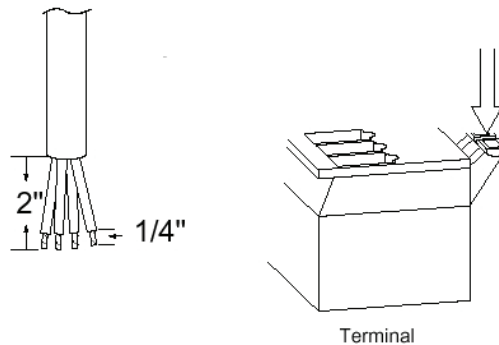

Figure No. 6
3. Remove 2" of the outer insulation jacket then remove 1/4" of insulation from each of the wires (refer to the Figure No. 6).